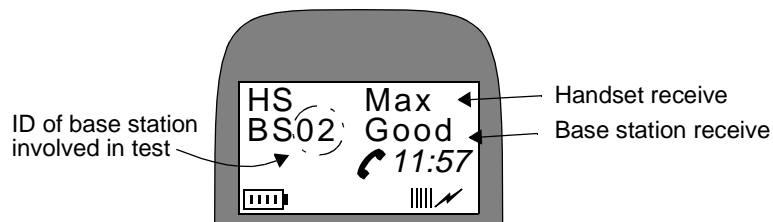

Figure 5-2. Handset Display During Bit Error Rate Testing
During a BER test, the handset checks the number of bit errors received by the handset (HS) and base station (BS), and reports results as shown in Figure 5-2. The possible BER results reported for the handset and base station are Max, Good, Poor and Bad.